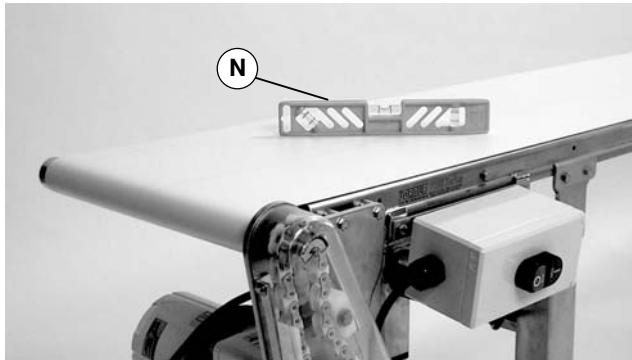

Figure 4
**NOTE: Conveyor MUST be mounted straight, flat, and level within confines of conveyor. Use a level (N of Figure 4) during setup.**